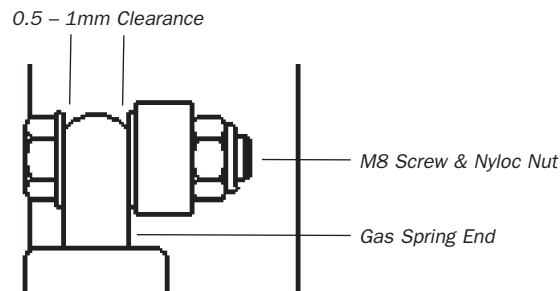

Figure 9.4.3.7 Gas Spring Alignment Clearance
18. Grip the Brake Cable Cable End with pliers and tighten the M4 Nyloc Nut until it contacts the edges of the Brake Arms. If required, prise the Brake Arms apart and activate Brake Lever until the M4 Nyloc Nut “jumps” between the Brake Arms and locates against the Brake Arm Clevis Pin. See Figure 9.4.3.6.